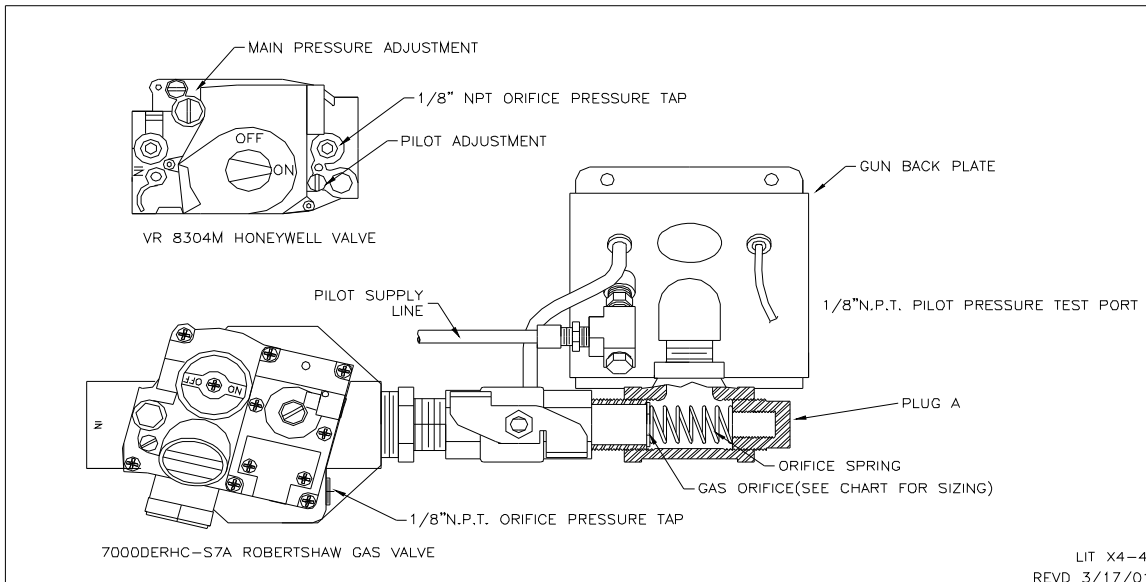

Figure 4: Location of Side Orifice
- 5.9 Check that side orifice size is correct according to burner specification sheet (See Figure 4). To gain access to orifice, remove Plug A and withdraw spring and orifice. When reinserting or replacing the orifice, ensure that it seats properly inside the tee and reinstall plug.